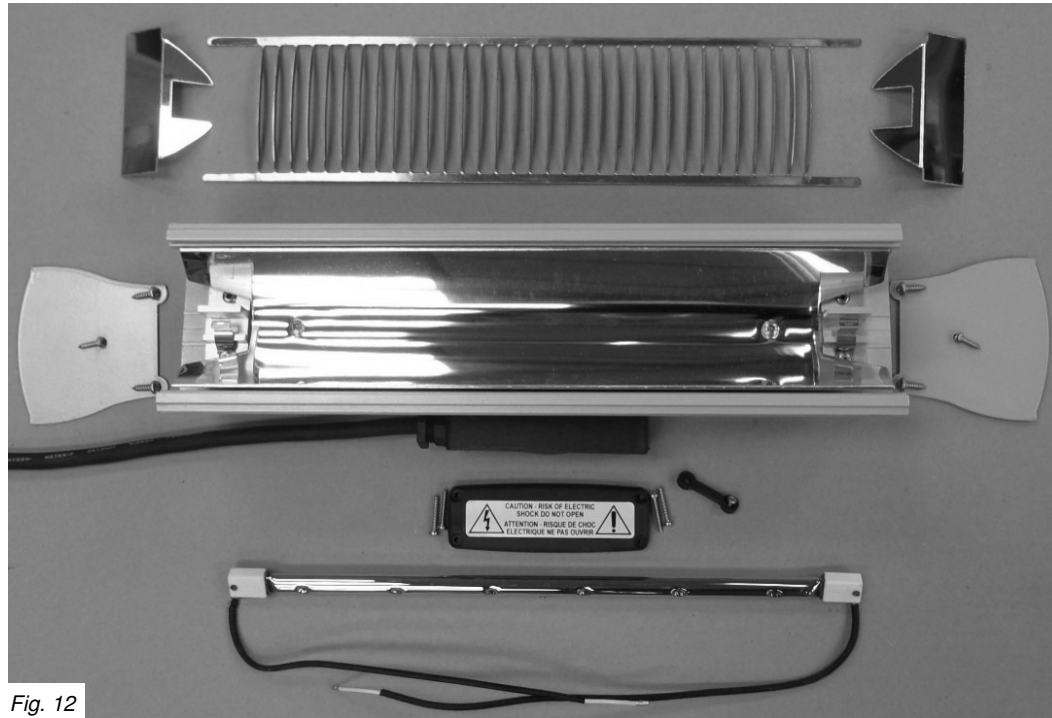

Fig. 12
12. The heater should now be broken down as shown in Fig. 12. Note: One of the lamp wires is longer than the other. Ensure your new lamp wires are the same length and it's fitted the same way around as the original.